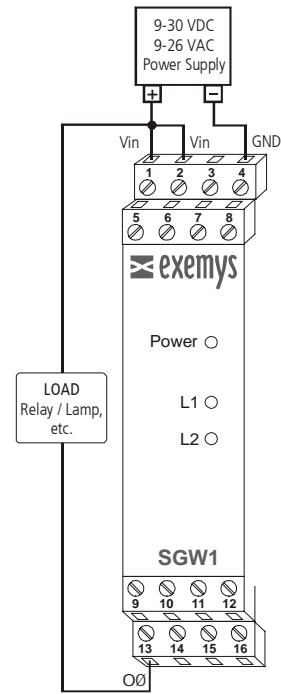

Figure 7 - The load and the Exemys device share the power supply
- **Case B:** The external load and the Exemys device share the same power supply. (See Figure 7)